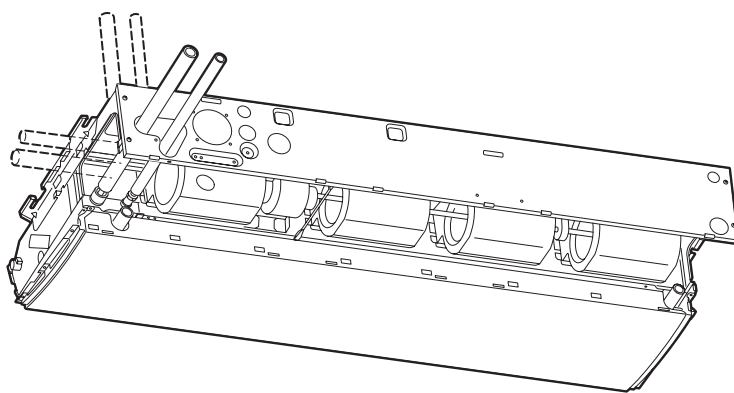

Fig. 3-94b
- * If the drain hose is routed through the left side, refer to Fig. 3-94b, and follow the procedure above to install the hose. Rettach the rubber stopper that was earlier removed onto the right side.